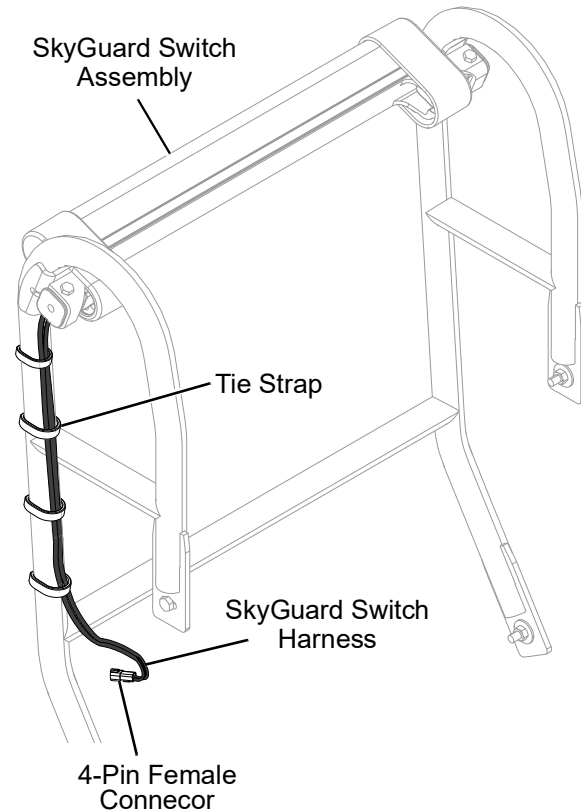

Figure 4-52.
9. Route the SkyGuard switch harness along SkyGuard support bracket (right side) and under the platform control box. Secure the harness using tie straps. See Figure 4-52.